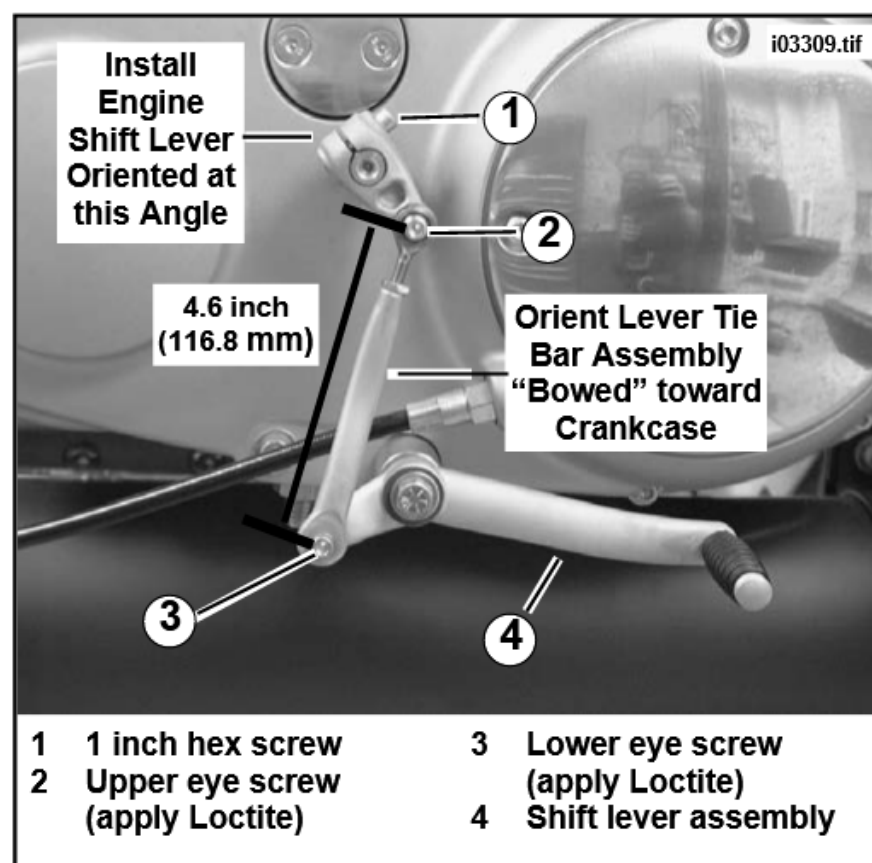

Figure 5. Shifter Kit (Assembled) (M2 Cyclone Shown)
- Obtain engine shift lever (part number T0225.02A8). Apply Loctite 243 (blue) to 1.25 inch screw (part number AN1009.2CXZB) and install engine shift lever to shifter shaft. Refer to Figure 5. Tighten screw to 59-66 **in-lbs** (6.7-7.5 Nm).
- See Figure 5. Obtain shift lever tie bar assembly (part number N0617.01A1A) and orient "bowed" toward crankcase as shown. Apply LOCTITE THREADLOCKER 243 (Blue) to threads of upper eye screw (part number AN1006.2XCZB) and install upper eye of lever tie bar to engine shift lever. Tighten screw to 39-60 **in-lbs** (4.4-6.7 Nm).